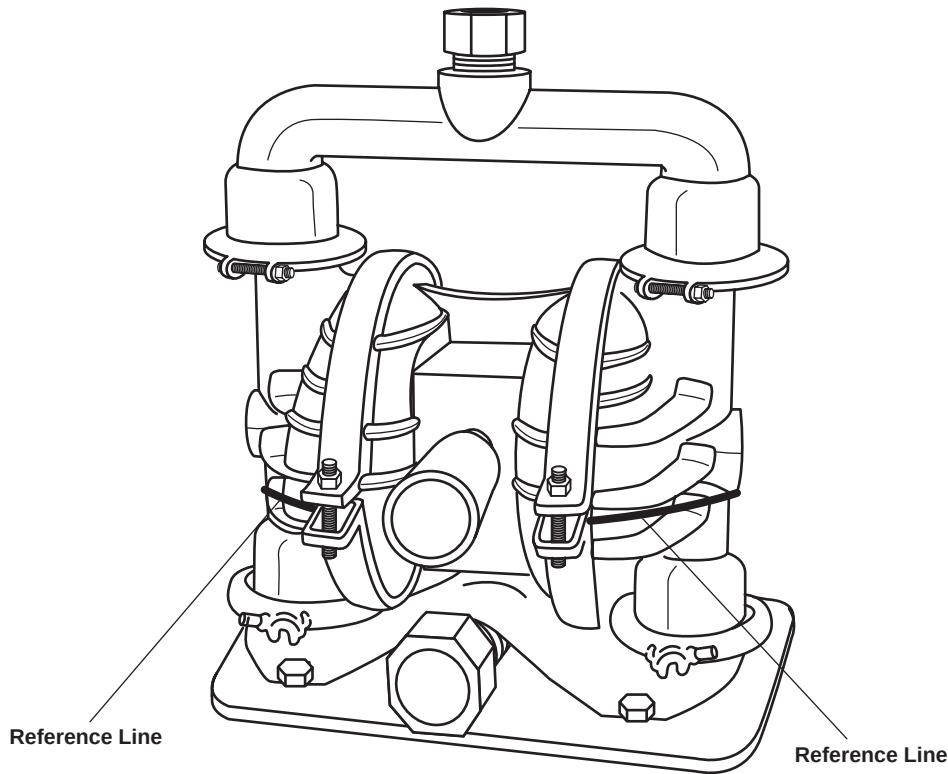

Figure 1. Alignment Marks
2. Mark a line (figure 1) from each liquid chamber to its corresponding air chamber to assist in the proper alignment during assembly.
9. Remove four nuts (figure 2, item 17) and four bolts (figure 2, item 18), and remove the two sets of liquid chamber clamps (figure 1, item 19).